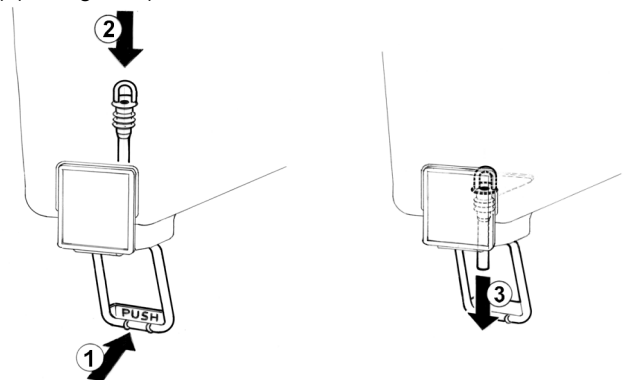

figure 4
**2 Pinch tube faucet:** push the dispensing handle (1) and insert the pinch tube into its vertical seat in the bowl bottom(2). Lightly pull the pinch tube end downwards til it is well arranged (3) (see figure 4).